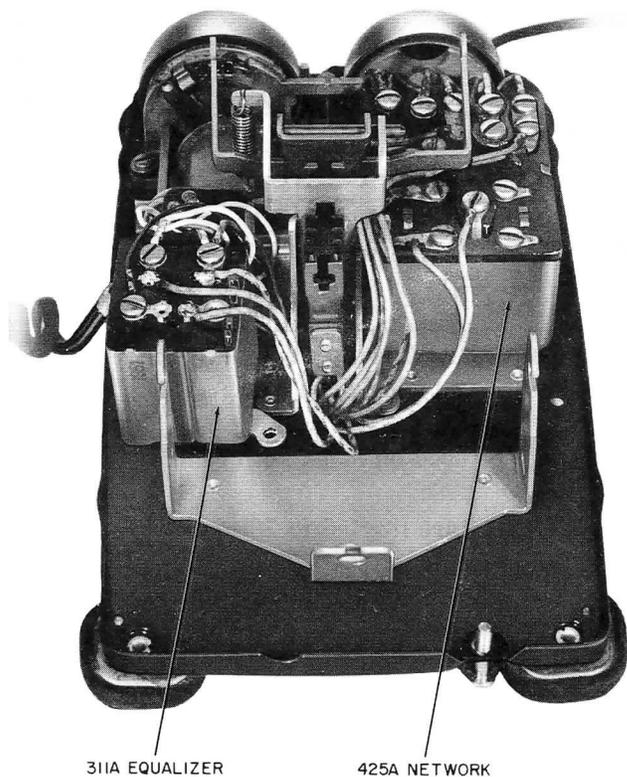

Fig. 2—500J or K Telephone Set with 311A Equalizer
5.01 The 500J and K telephone sets without 311A equalizer should not be used in Zone 2 because crosstalk and undesirable sidetone may be produced on short loops. The 500J or K telephone with 311A equalizer is shown in Fig. 2.